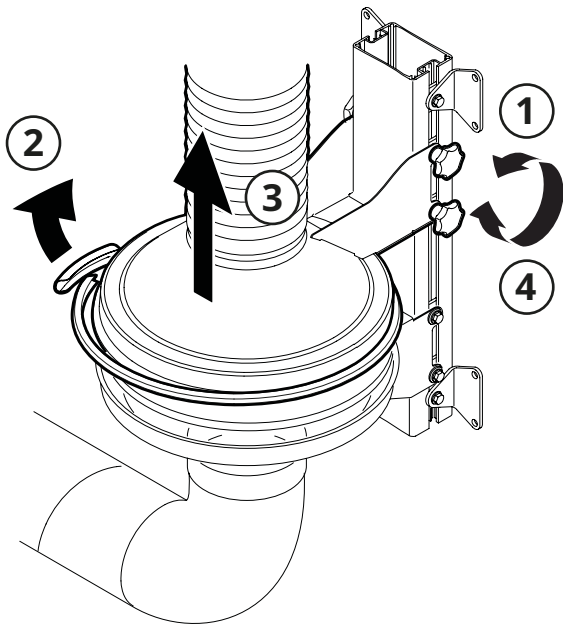

Fig. 16
2. Loosen the knobs (1, Fig. 16) on the top cone and the tension ring (2).
3. Then slide the top cone (3) up and lock it firmly in place in the aluminium rail (4).